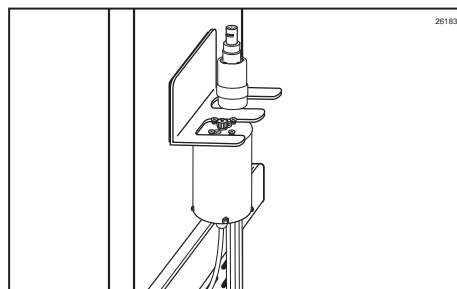

Figure 11
5. Hang the 9-Tube assembly on the 9-Tube and Drive Motor Bracket to dry. (See Figure 11.)